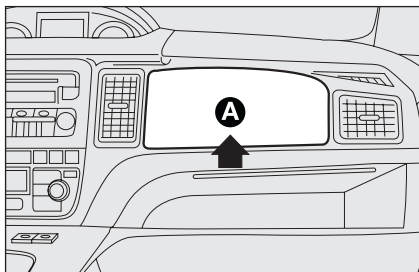

fig. 18
## FRONT AIR BAG ON PASSENGER'S SIDE fig. 18
*Do not apply stickers or other objects on the steering wheel in zone A-fig. 18, passenger side airbag cover or side upholstery on roof. Do not place objects on the passenger side dashboard because these could interfere with the correct opening of the airbag (e.g. mobile phones) and cause severe injury to occupants.*